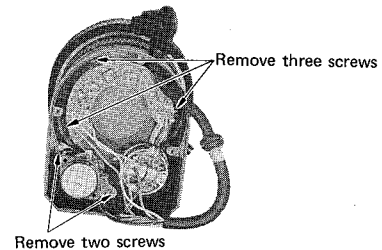

Fig. 3
- Remove two screws which hold the zoom motor assembly and remove the zoom motor assembly. (Fig. 3)
- Remove three screws which hold the ALC assembly and remove the ALC assembly. (Fig. 3)